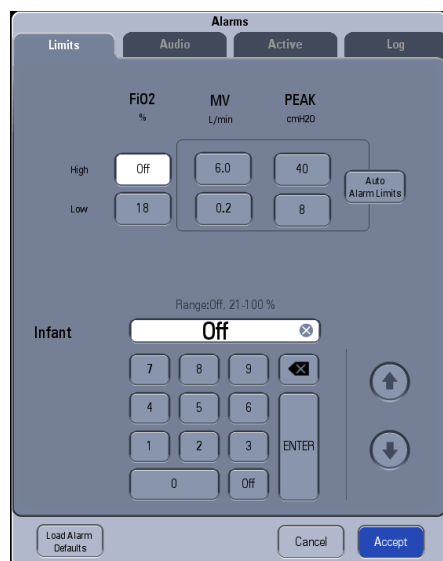

FIGURE 6-7 Limits tab in the **Alarms** window
2. Select the **Limits** tab. (See FIGURE 6-7.)